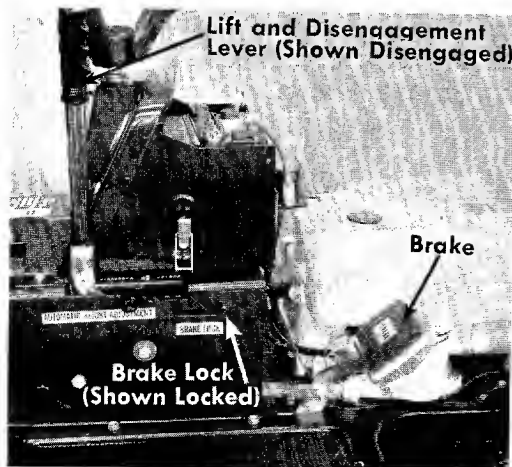

FIGURE 9. RIGHT HAND CONTROLS
- c. **Brake.** The brake pedal is located on the right hand side of the mower and is operated by depressing it with your right foot. See figure 9.
- d. **Brake Lock.** The brake lock is located on the right hand side of the mower. To lock the brake, depress the brake pedal and lift up the lock button. The pedal will stay depressed. To release, depress the pedal. See figure 9.
j. Lift and Disengagement Lever. It is used to raise the cutting deck. Pulling it all the way back and locking it disengages the blades. The engine will not start unless the lift and disengagement lever is in the disengaged position. See figure 9.
Step 3. Place the lift and disengagement lever in the DISENGAGED position. See figure 9.
To stop the blades, move the lift and disengagement lever (figure 9) into the DISENGAGED position. This raises the deck and disengages the blades.